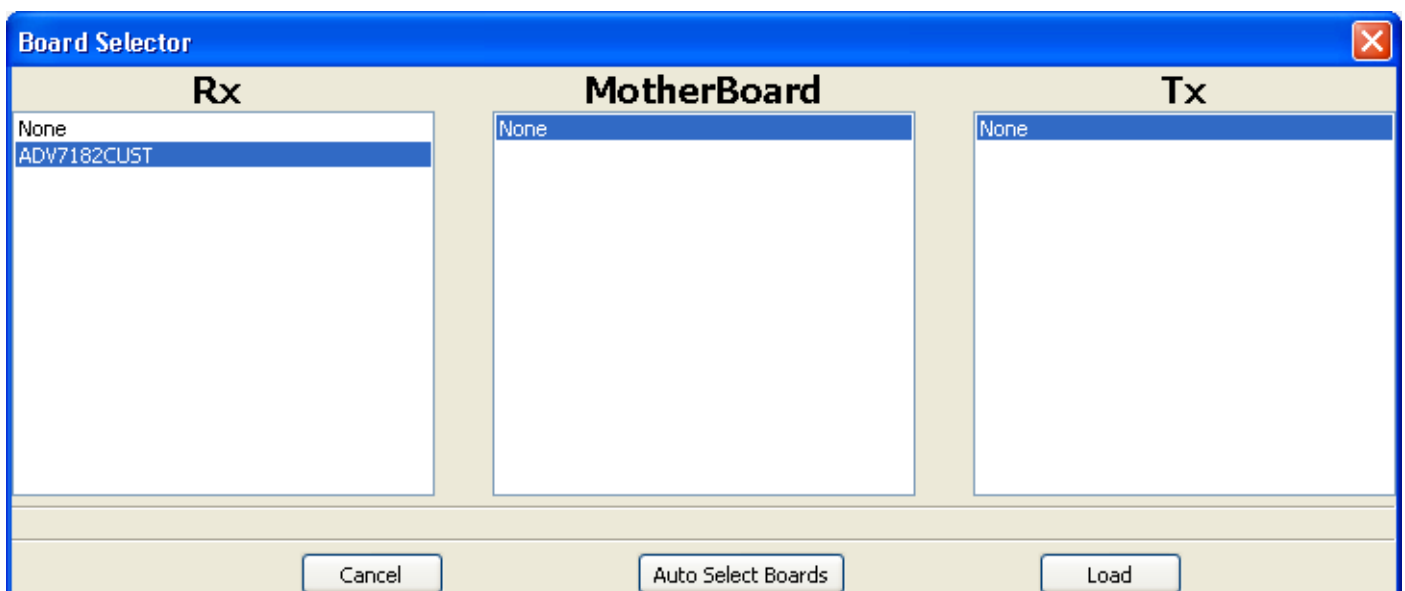

Figure 5. Board Selector Window of DVP Eval Program
2. Press the **Choose Board** button on the top left of the DVP Eval program window and the Board Selector window appears (refer to Figure 5).